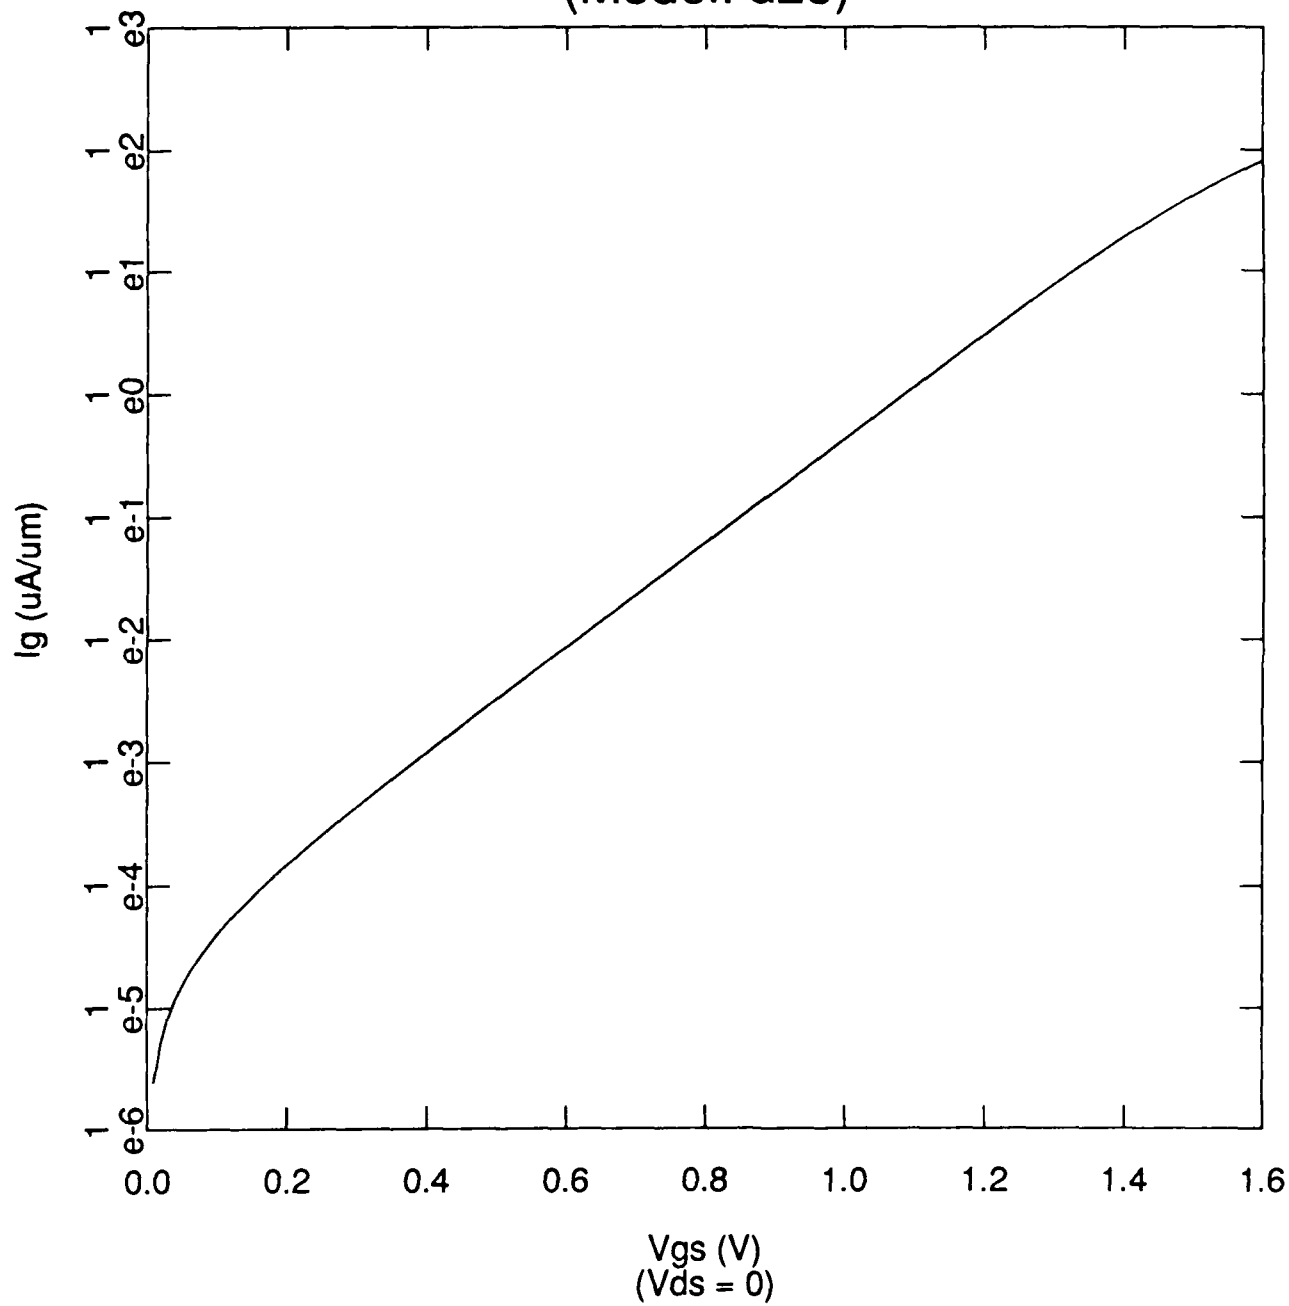

Figure 6. I_g vs. V_{gs} ($V_{ds} = 0$) for d25 DHFET Simulation at 25C (semilog).
- Figure 6. I_g vs. V_{gs} ($V_{ds} = 0$) for d25 DHFET Simulation at 25C (semilog).